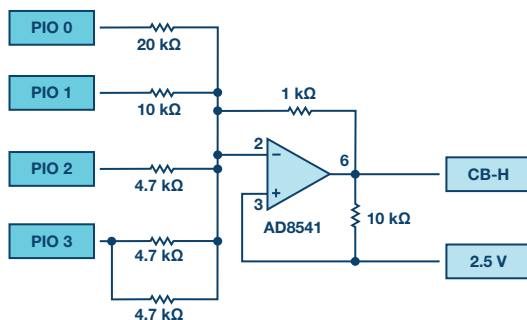

Figure 7. Summing amplifier configuration.
The circuit of Figure 7 is a basic inverting amplifier with four inputs, called a summing amplifier. Figure 7 is configured slightly differently than you may see in text books because of the single positive supply voltage available from the ADALM1000. The noninverting (+) input of the amplifier is connected to 2.5 V, which is half the supply voltage, rather than ground. This changes the summing amplifier equations. The input voltages, which appear across the input resistors, now are taken with respect to the 2.5 V so called common-mode level. They should have the 2.5 V subtracted, so 0 VIN becomes -2.5 V and +3.3 VIN becomes +0.8 V. The output voltage should also be taken with respect to the +2.5 V level. To make the conventional equation come out right, the output voltage will also have the 2.5 V common-mode level subtracted. Another way to think about this is to consider the case where all the inputs are at 2.5 V (or are left floating). There will be no current flowing in any of the input resistors (they have 0 V across them) and as a result the feedback resistor will also have no current flowing in it (it has 0 V across it). The output will be at 2.5 V.
With the power disconnected, modify your inverting amplifier circuit as shown in Figure 7. Reconnect the power and, using the digital output controls, fill in the following two tables. In the first table, record the low and high voltages for each digital output. Use the CB-H scope input in high-Z mode to do this. In the second table, record the output voltage for all 16 combinations of 1s and 0s for PIO 0, PIO 1, PIO 2, and PIO 3. You should also confirm that the output voltage is indeed 2.5 V when all four bits are floating or in the high-z (X) state.